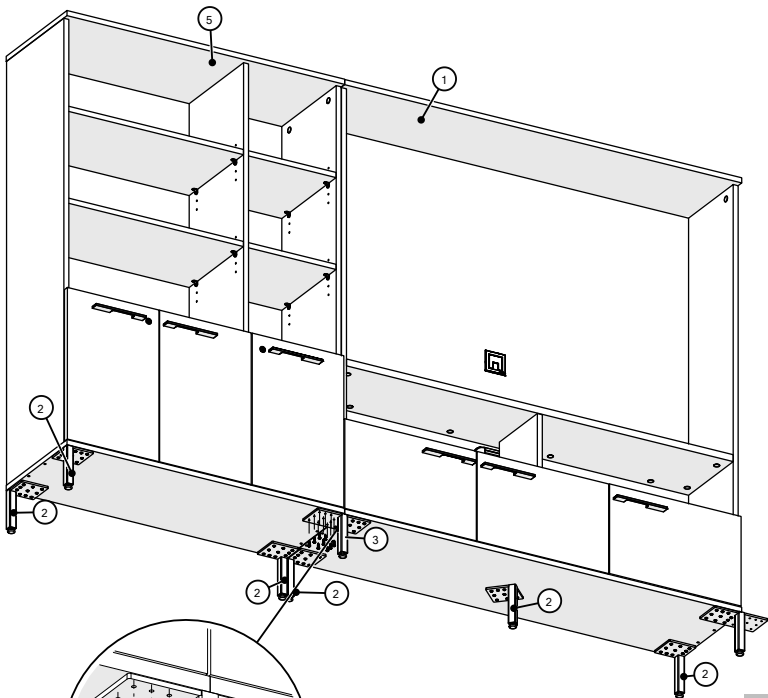

Figure 3
- Connect storage unit 2 to storage unit 1 using (10) #10-3/4" Pan Head Screws, (Figure 3).